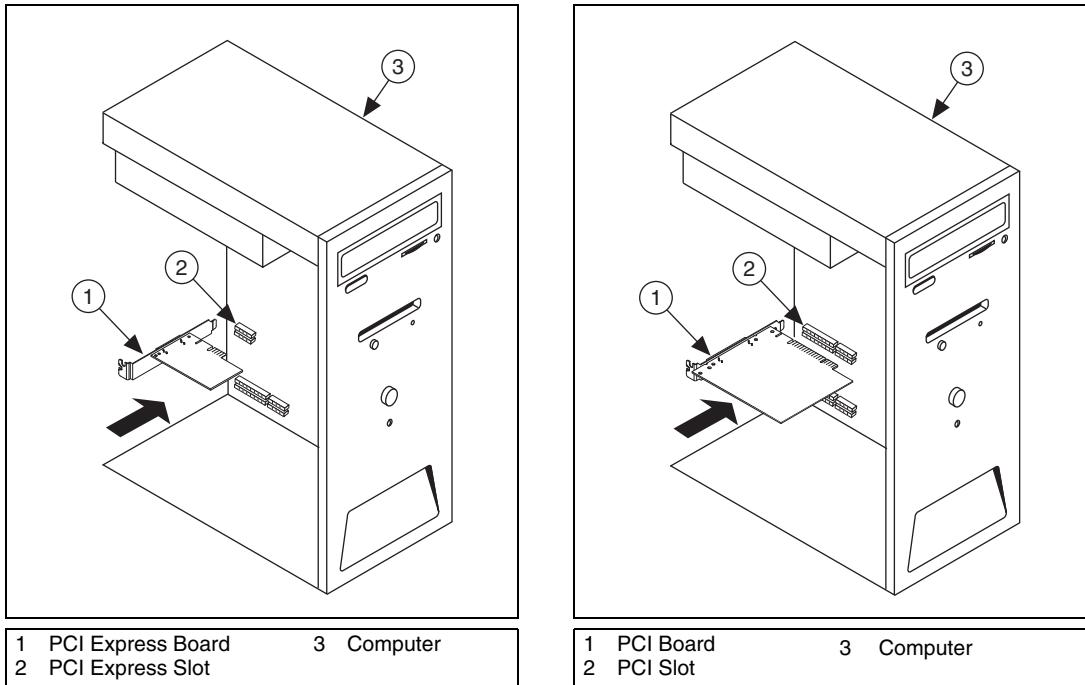

Figure 1-3. Installing Your PCI Card
5. Insert the GPIB board into the slot with the GPIB connector sticking out of the opening on the back panel, as shown in Figure 1-3. It might be a tight fit, but do not force the board into place.